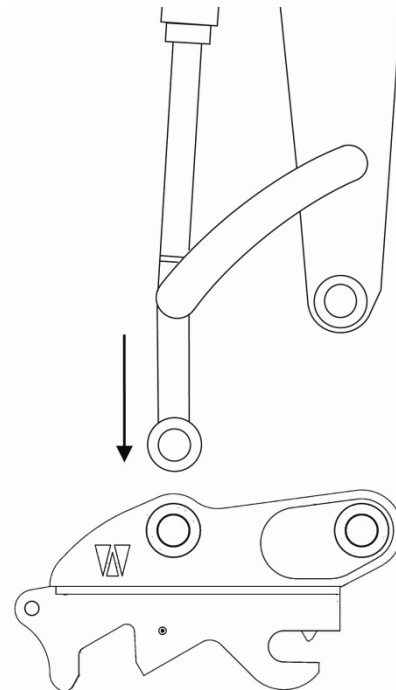

Fig 3.3.1 Lower linkage into coupler
- Using the bucket curl cylinder lower the linkage into position on the rear boss of the coupler (Fig 3.3.1).